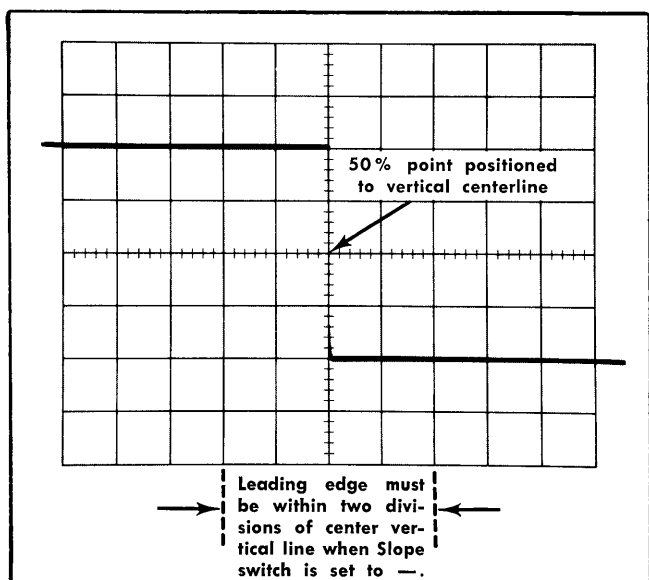

Fig. 5-18. Typical CRT display when checking calibrator duty cycle.
g. CHECK—50% point on the rising edge is now displayed not more than two divisions from the center vertical line (indicates a duty factor of 48% to 52%; see Fig. 5-18).